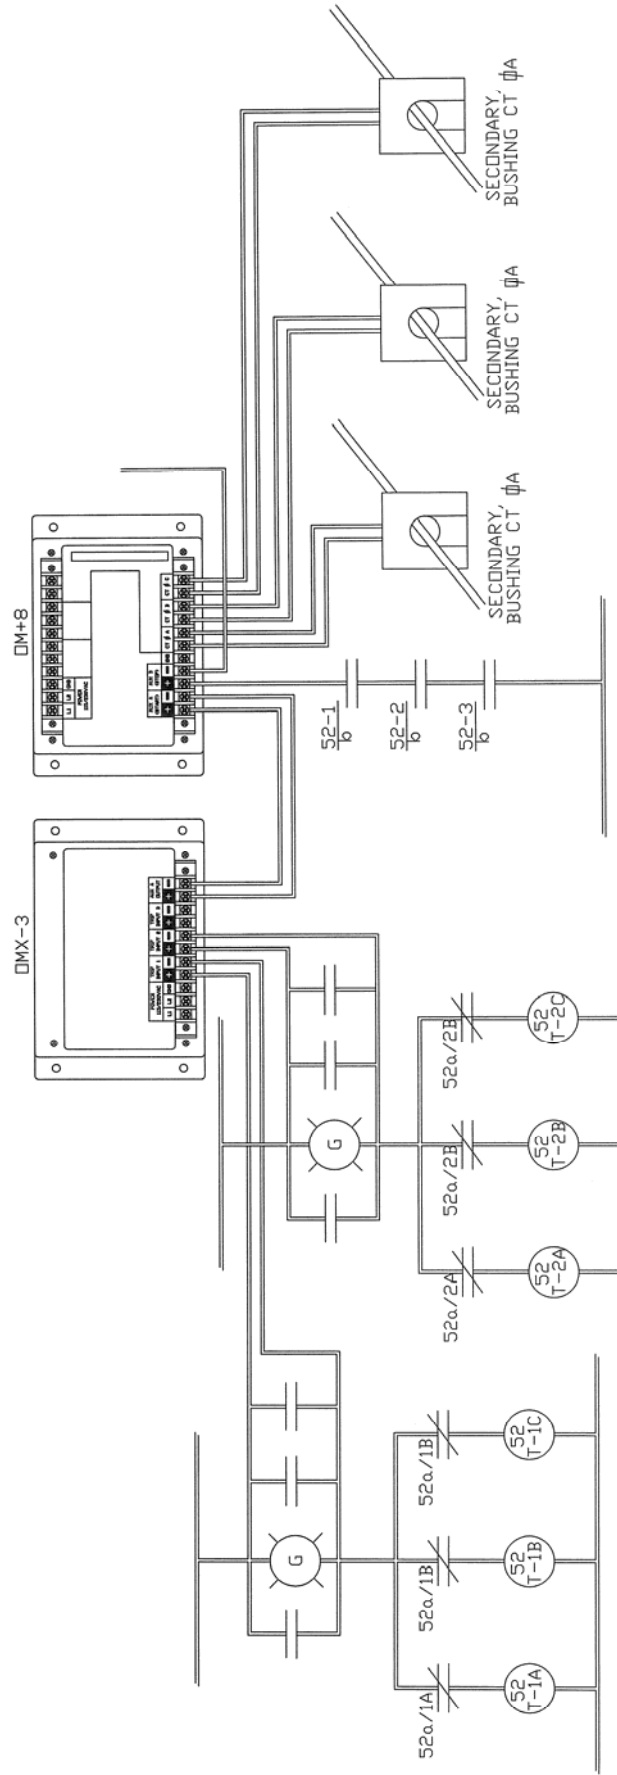

Figure 1.6 Field Wiring Diagram: Individual Pole Mechanisms, Parallel-Ganged, with Redundant Trip Circuits – Single OPTImizer+
5. **Individual Pole Mechanisms, with Parallel-Ganged, Redundant Trip Circuits (Figure 1.6) – Single OPTImizer+ – Short**